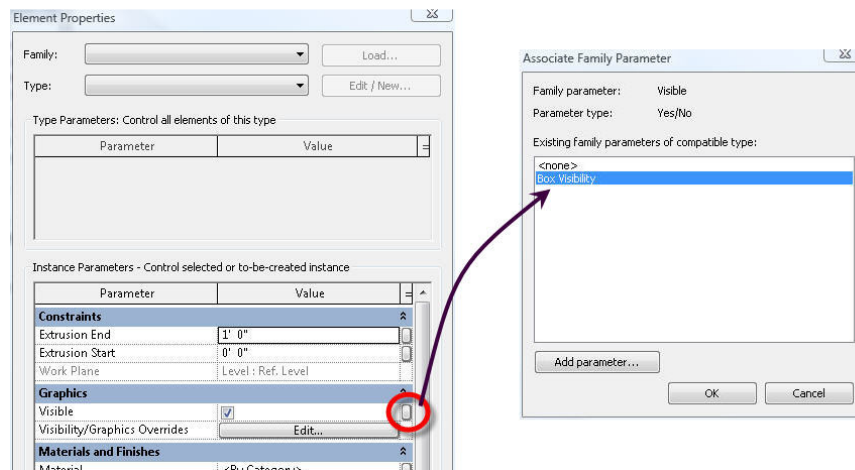

Figure 9. Object properties in families can be linked to parameters of the appropriate type.
7. Set the object’s properties. Specific properties that you are interested in include the depth (in the case of an extrusion or blend), the material of the object, visibility and sub-category (if necessary). You can also set the properties after the object has been created and you have exited sketch mode. It is also important to note that you can link properties to parameters. For example, if you have created a Yes/No parameter, that parameter can be used to control the Visibility property of the object (see Figure 9).